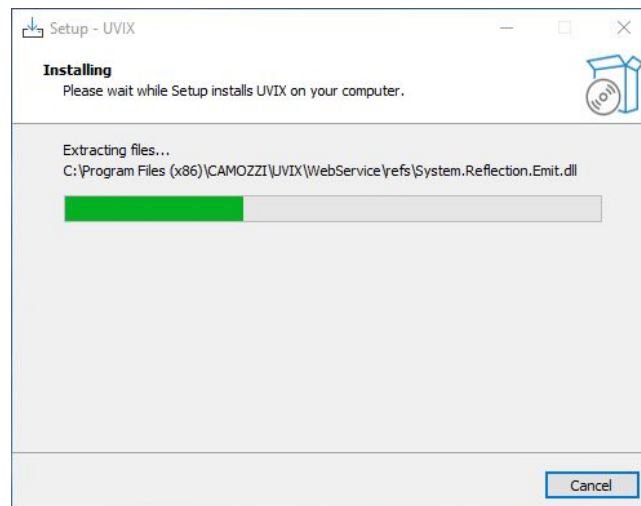

Figure 4.17: Installing
7. Wait for the installation to complete, as shown in figure 4.17.